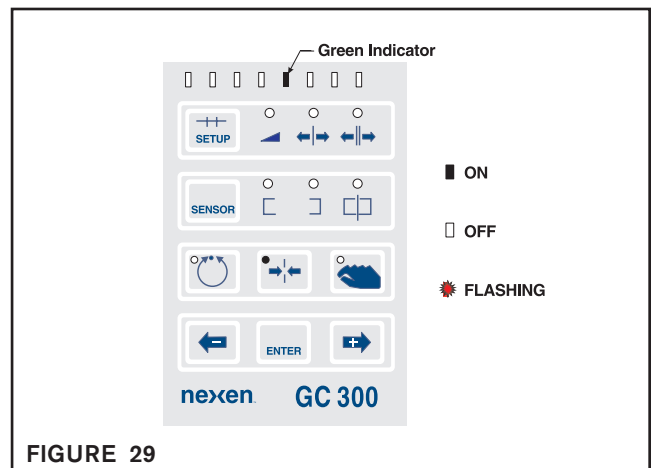

FIGURE 29
3. Power up the GC300; then, set the GC300 to Auto Centering Mode (See Figure 29), or manually move the web guide mechanism to the center position.
5. Select Right or Left Sensor on the GC300 Control Panel (See Figure 29).